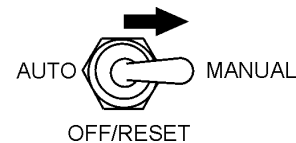

Figure 44. MPEC Control Switch (Manual Position)
2. Place the **MPEC control switch** in the **MANUAL** position to start the engine (Figure 44).